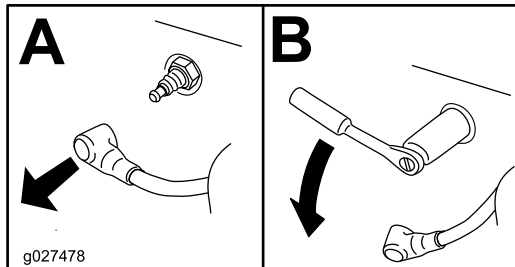

Figure 30
4. Remove the spark plug (Figure 30).